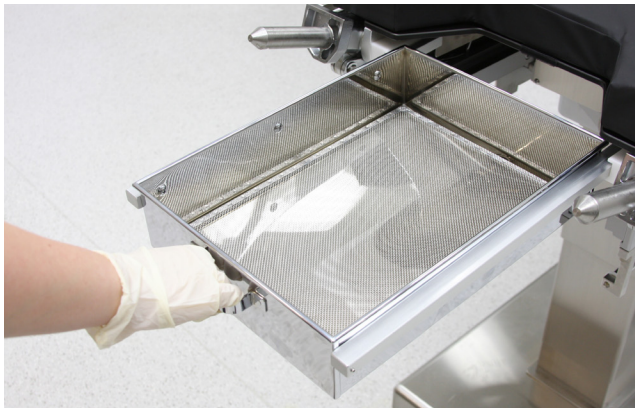

Figure 7. Uro Tray Removal
1. When removing the Uro Tray, It's important to grasp the handle from above and pull straight out until resistance is met. (Figure 7).